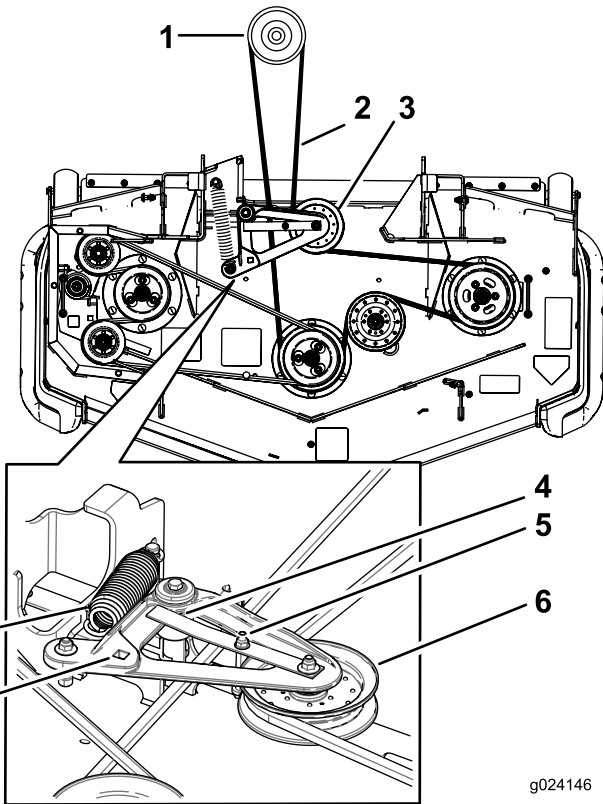

Figure 93
6. Use a ratchet in the square hole in the idler arm to remove tension on the idler spring (Figure 93).
8. Install the new belt around the mower pulleys and the clutch pulley under the engine (Figure 93).
10. Using the ratchet in the square hole, install the belt around the spring-loaded idler pulley (Figure 93). Seat the spring ends in the anchor grooves.